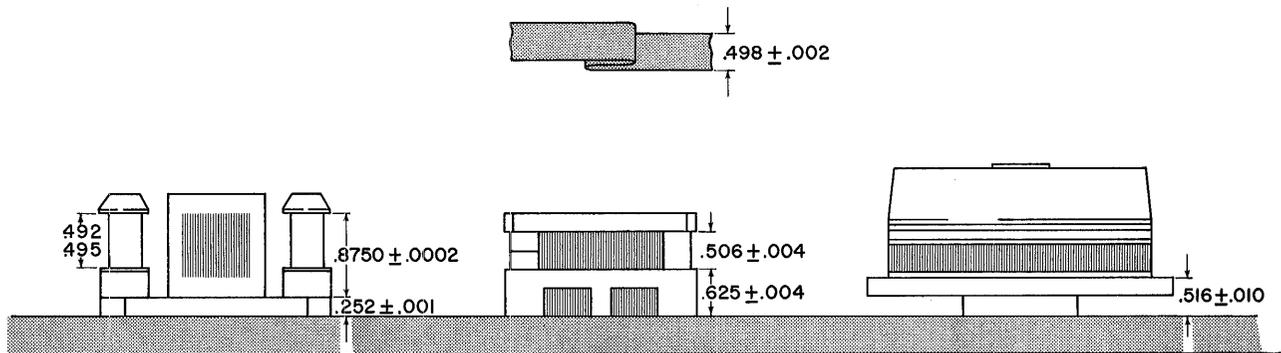

Figure 6-11
Step 1: Remove the reel from the supply reel assembly and check the turntable height by measuring its distance to the tape transport frame. This distance should be $0.516'' \pm 0.010''$. (See Fig. 6-11).